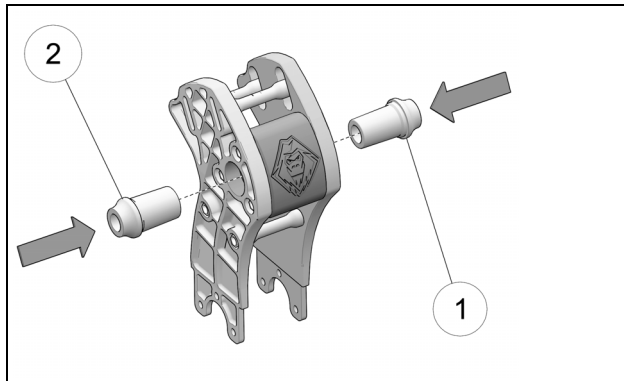

Figure 8
- Insert left (1) and right (2) axle spacers in the large holes in spindle side plates. See Figure 8.